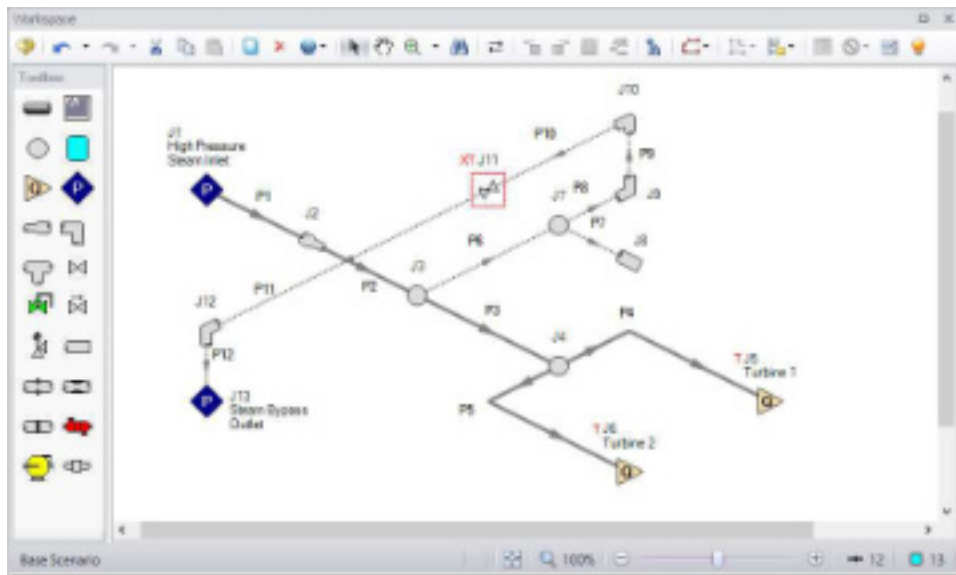

Figure 4.2 Isometric layout with the grid turned off
6. The grid can be shown or turned off in the Arrange menu, as shown in Figure 4.2.